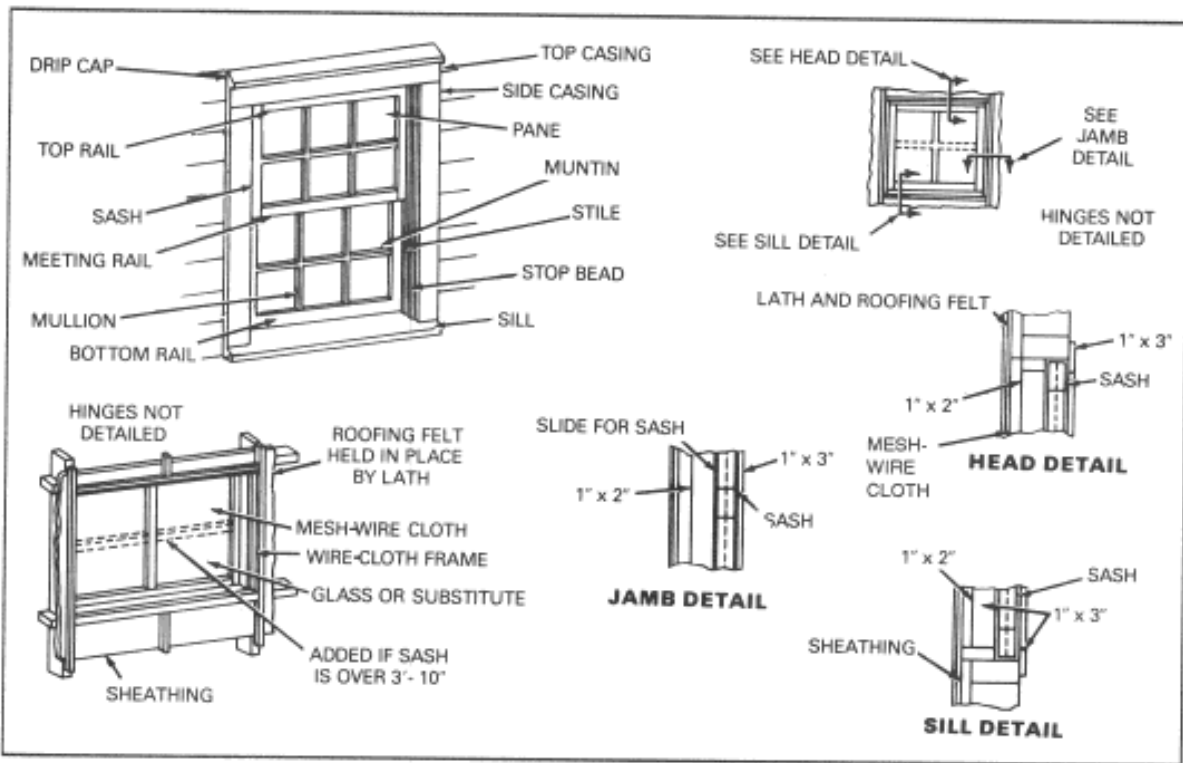

Figure 8-15. Window frame and sash details
*Step 2.* Nail the frames together. When the two frames are nailed together, they should be turned so that the joints are not over each other. This staggers the joints and strengthens the sash. Do not make the window sash larger than the available glass substitute. If the sash is too large for the glass substitute to cover, a muntin may be placed in the sash to hold the glass substitute; this should be fastened with corrugated metal fasteners. Where long sashes are made, a muntin should be placed in the center for added strength. Figure 8-15, page 8-12, shows the window frame and sash details.